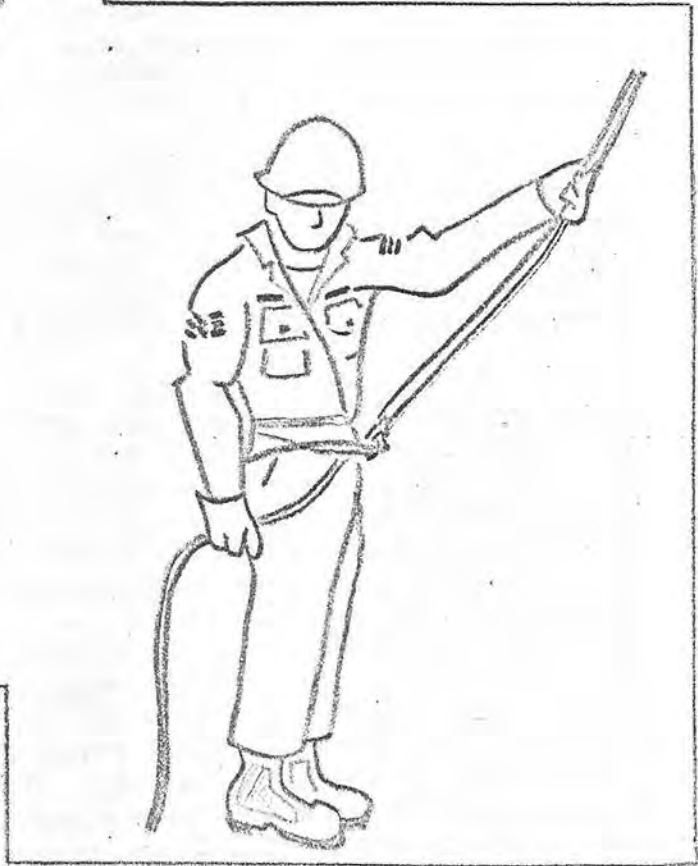

FIG 41. SEAT-HIP RAPPEL
(3) Seat-Hip Method: The rappeler stands to one side of the rope, (when braking with the right hand on the left, and when braking with the left hand, on the right side), and snaps the rope into the snaplink. (Figure 41). Some slack between the snaplink and the anchor point is taken up and brought underneath, around and over the snaplink and snapped into it again. This results in a turn of rope around the solid shaft of the snaplink which does not cross itself when under tension. When a single rope is used, two wraps around the snaplink are made to increase friction. Facing sideways, the climber descends, using his upper hand as the guiding and his lower as the braking hand. The rope is grasped by the braking hand with the thumb pointing down and towards the body. The braking hand is held behind and slightly above the hip. Braking action is obtained by closing the hand and pressing the rope against the body. The rappeler should lean well out, at an angle from the rock, and make a smooth and even descent. This method is the least frictional and fastest. However, special care must be taken that the rope is snapped correctly into the snaplink to insure against the possibility that the gate may be opened by the rope.